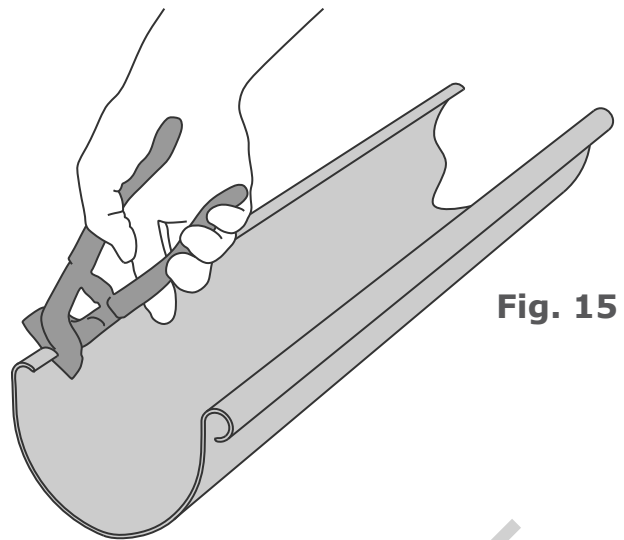

Fig. 15
9.2. Use a front end nipper to remove the plastic and create the notch. Fig. 15.